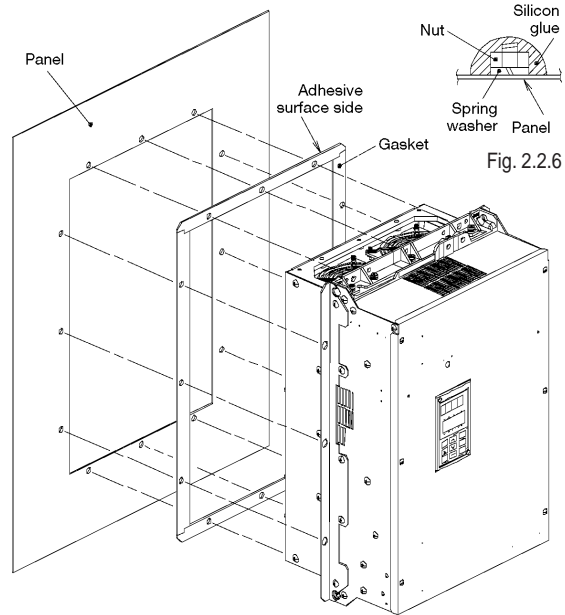

Fig.2.2.5
2. Install the drive and tighten the mounting bolt and nut. (Tightening torque: 119 lbs-inch [M8], 425 lbs-inch [M12]). Mounting hardware to be supplied by the customer. (Refer to Fig. 2.2.5)